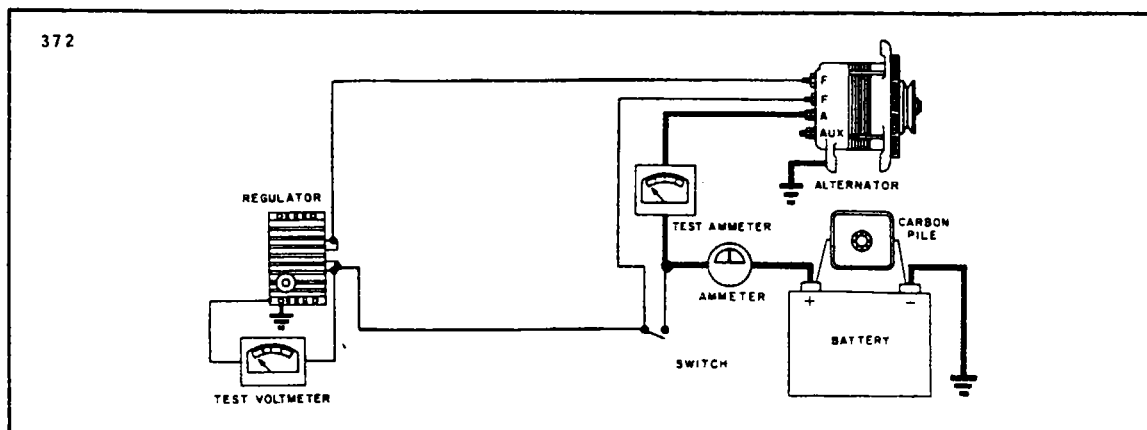

Figure 11-34. Testing Regulator (Prestolite)
a. The procedure for testing the regulator, whether on the airplane or on the test bench, remains the same. Connect test meters as shown in Figure 11-34.
d. Connect the voltmeter and the ammeter as shown in Figure 11-34. Start the engine and adjust its speed to obtain 3,000 to 4,000 alternator RPM. Turn on accessories as needed to establish 10 to 15-ampere electrical load, or use a carbon-pile across the battery to obtain this charge rate.